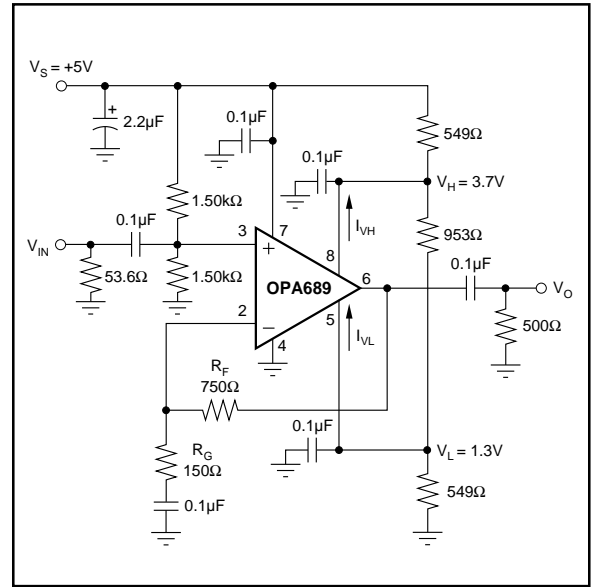

FIGURE 2. AC-Coupled, Single Supply Amplifier.
$G = +6$, $R_F = 750\Omega$, $R_L = 500\Omega$ tied to $V_{CM} = 2.5V$, $V_L = V_{CM} - 1.2V$, $V_H = V_{CM} + 1.2V$, (Figure 2 for AC performance only), unless otherwise noted.
NOTES: (1) Junction Temperature = Ambient Temperature for low temperature limit and 25°C guaranteed specifications. Junction Temperature = Ambient Temperature + 23°C at high temperature limit guaranteed specifications. (2) TEST LEVELS: (A) 100% tested at 25°C. Over temperature limits by characterization and simulation. (B) Limits set by characterization and simulation. (C) Typical value for information only. (3) Current is considered positive out of node. (4) CMIR tested as < 3dB degradation from minimum CMRR at specified limits. (5) I_{VH} (V_H bias current) is negative, and I_{VL} (V_L bias current) is positive, under these conditions. See Figures 2 and 7. (6) Limiter feedthrough is the ratio of a sinewave added to V_H (or V_L) to the output magnitude when $V_{IN} = 0$. (7) V_H slew rate conditions are: $V_{IN} = +0.7V$, $G = +6$, $V_L = -2V$, $V_H =$ step between 2V and 0V. V_L slew rate conditions are similar. (8) Linearity Guardband is defined for an output sinusoid ($f = 1MHz$, $V_O = 2Vp-p$) centered between the limiter levels (V_H and V_L). It is the difference between the limiter level and the peak output voltage where SFDR decreases by 3dB (see Figure 8).
$G = +6$, $R_F = 402\Omega$, $R_L = 500\Omega$ tied to $V_{CM} = 2.5V$, $V_L = V_{CM} - 1.2V$, $V_H = V_{CM} + 1.2V$, (Figure 2 for AC performance only), unless otherwise noted.
Figure 2 shows an AC coupled, non-inverting gain amplifier for single supply operation. This circuit was used for AC
The OPA689 is nominally specified for operation using either $\pm 5V$ or +5V supplies. The maximum specified total supply voltage of 13V allows reasonable tolerances on the supplies. Higher supply voltages can break down internal junctions, possibly leading to catastrophic failure. Single supply operation is possible as long as common mode voltage constraints are observed. The common mode input and output voltage specifications can be interpreted as a required headroom to the supply voltage. Observing this input and output headroom requirement will allow design of non-standard or single supply operation circuits. Figure 2 shows one approach to single-supply operation.
When the limiter voltages need to be within 2.1V of the supplies ($V_L \leq -V_S + 2.1\text{V}$ or $V_H \geq +V_S - 2.1\text{V}$), use low impedance voltage sources to set V_H and V_L . This will typically be the case for single supply operation ($V_S = +5\text{V}$). Figure 2 runs 2.5mA through the resistive divider that sets V_H and V_L . This keeps errors due to I_{VH} and $I_{VL} < \pm 1\%$ of the target limit voltages.